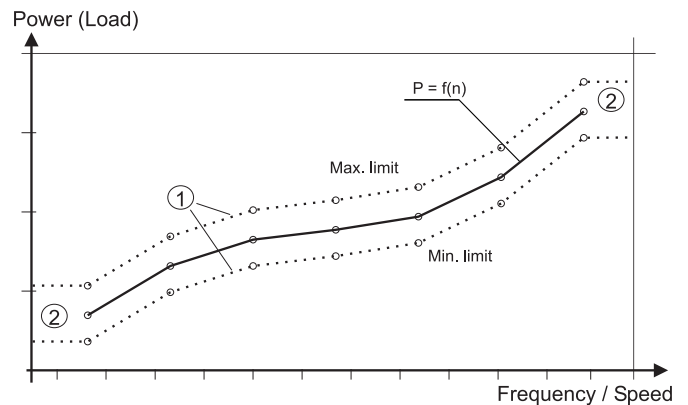

Figure 4.8 Supervision curve
The basis for the supervision curve is between two and ten recorded measurements $P=f(n)$. These measurements (points) are linearly interpolated by the software and encompassed with a max. and min. limit band (1) (see figure 4.8).
Upon recording the system automatically places a setpoint band around the curve with a distance of $\pm 10\%$ of the curve. The band will equal the highest value (load) for frequencies above the highest frequency and equal the lowest value for frequencies below the lowest frequency (2) - see figure 4.8.